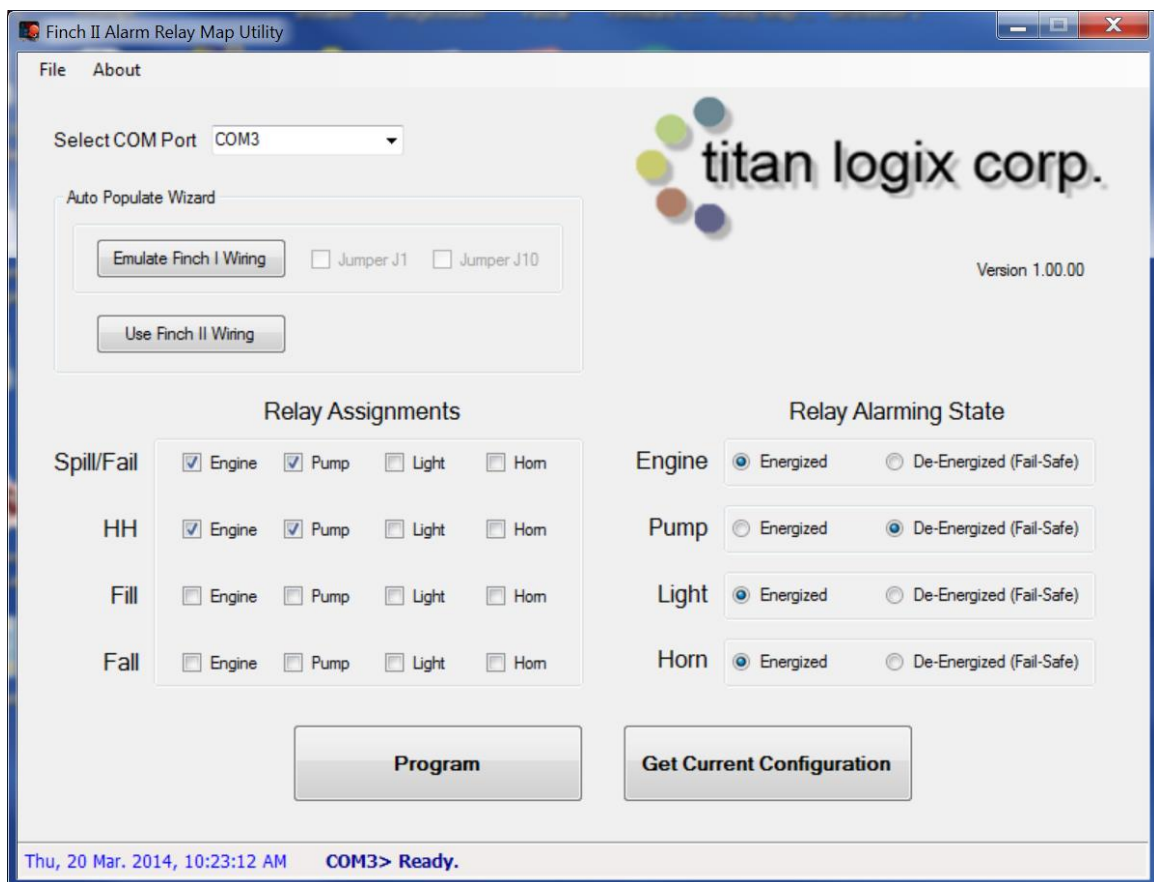

Figure 5-6: Finch II Alarm Relay Mapping
7. Confirm the TD80 and Finch programming. Reprogram the following if required. See Figure 5-6 for alarm relay mapping details.